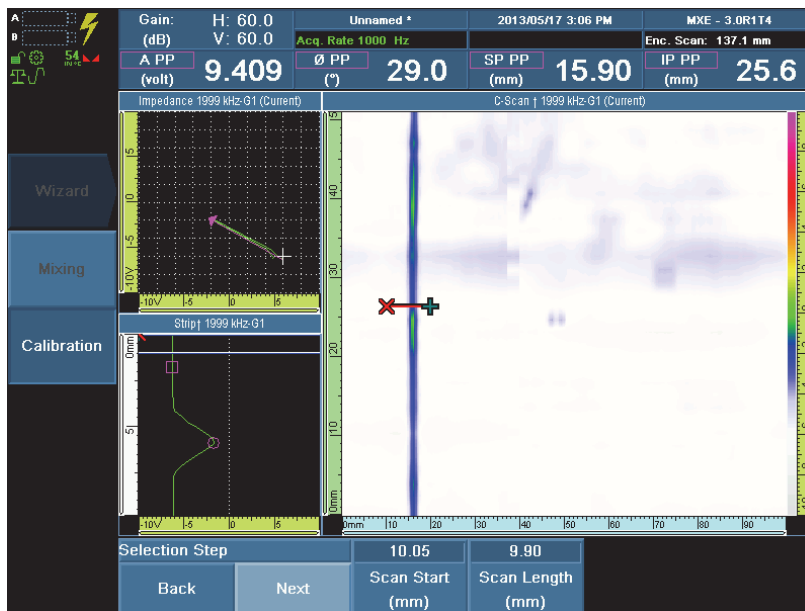

Figure 10-9 Positioning the selection cursor correctly with regard to the defect signal to be normalized
- a) Select **Scan Start**, adjust the starting position of the cursor before the normalization defect, leaving some space before the signal, and then press the Accept key to confirm (see Figure 10-9 on page 186).